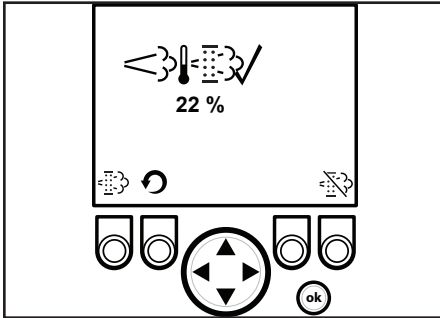

Fig. 50 - Stationary Regeneration In-Progress Screen
3. When all three check-marks (T, U & V) are displayed on the Stationary Regeneration screen, press and hold the button (W) until the Stationary Regeneration In-Progress screen displays (Fig. 50).